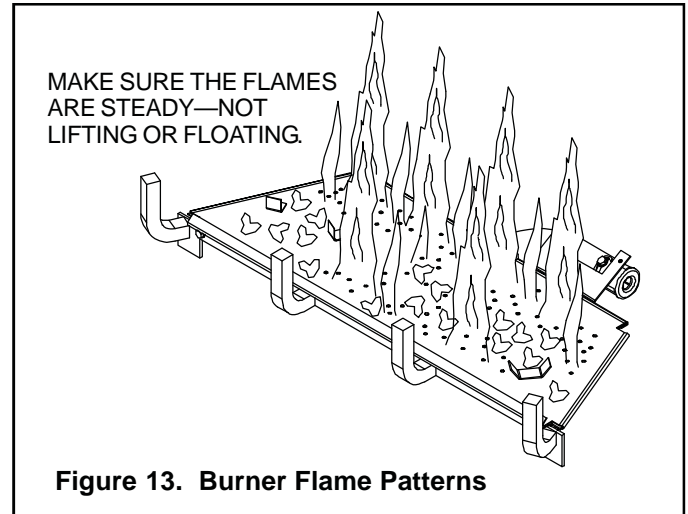

Figure 13. Burner Flame Patterns
**Task:** Make a visual check of your fireplace's flame patterns. Make sure the flames are steady - not lifting or floating. See Figure 13. The thermopile/thermocouple (standing pilot) tips should be covered with flame. See Figure 6.